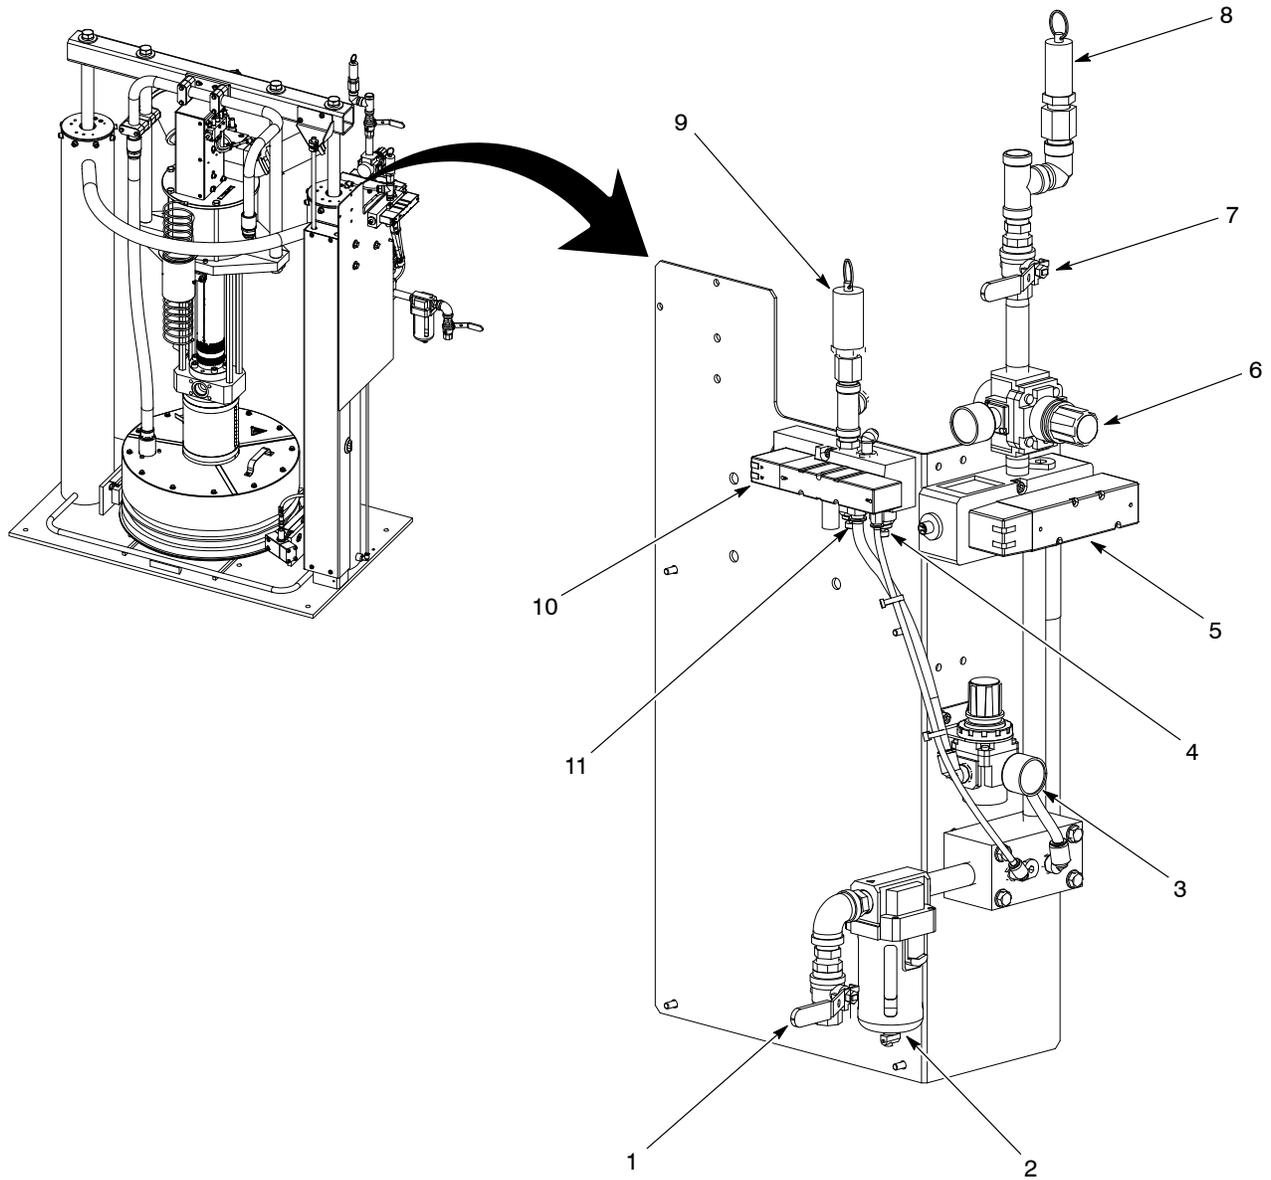

Figure 2 Typical Control Module Components
See Figure 1. The Control Module (2) provides the pneumatic operating functions for Rhino heated XD2H bulk unloaders (1). See Figure 2 and refer to Table 1 for a list of the Control Module components.